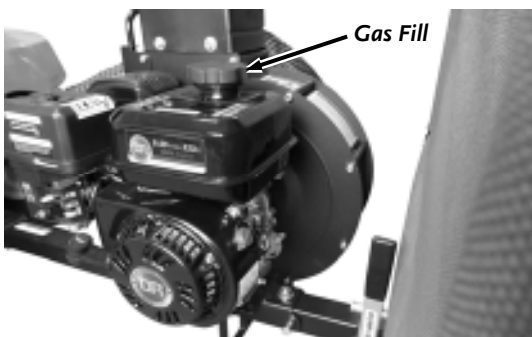

Figure 61
1. Fill the gas tank (**Figure 61**) to within 1-1/2 inches below top of fill neck (to allow for fuel expansion) with fresh, unleaded gas. See your Engine Owner's Manual for more information.